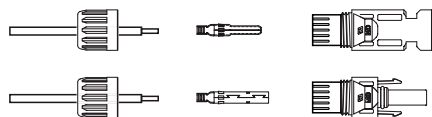

Figure 3.18 Disassemble the Connector Cap nut
1. Strip off the DC wire for about 7mm, Disassemble the connector cap nut. (see Figure 3.18)